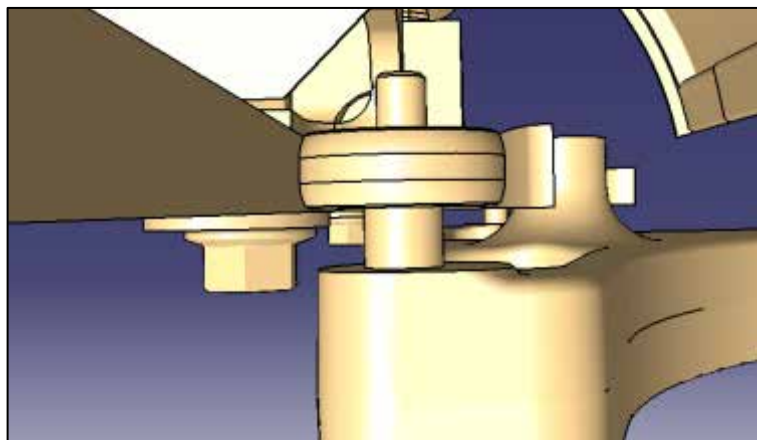

Figure 54
82. Vertically inspect the roller to make sure it is centered in the fork slot surface. (Figure 54)